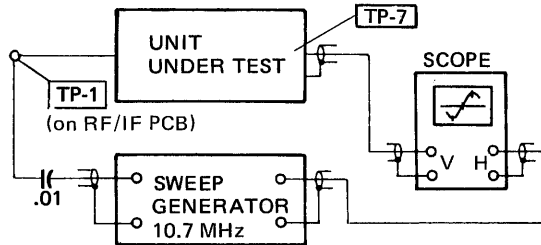

FIGURE 3. IF SECTION ALIGNMENT TEST EQPT HOOK UP
Step 1: Connect instruments as shown in Figure 3.